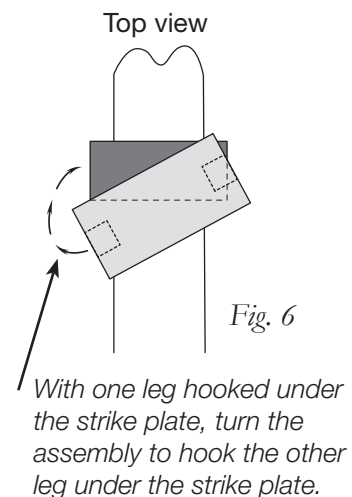

Fig. 6
2. With the lower bracket parallel to the strike plate, hook one leg under the side of the strike plate and turn the assembly until the other leg is under the strike plate on the other side (Fig. 6).
1. Set the assembly on the strike plate so that the legs of the lower bracket are forward and behind the axle (Fig. 6).